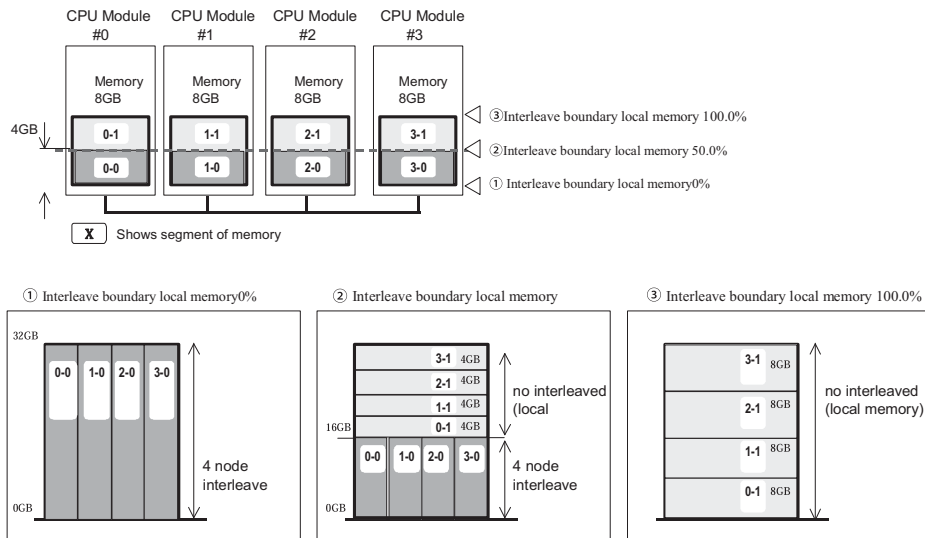

Figure 9. Examples of interleaving
- Mixture mode — This mode specifies the ratio of a local memory at a constant rate. There can be some restrictions on the ratio of local memory, according to the NUMA function support level of operating system in use. Figure 9 shows examples of all three types of modes.